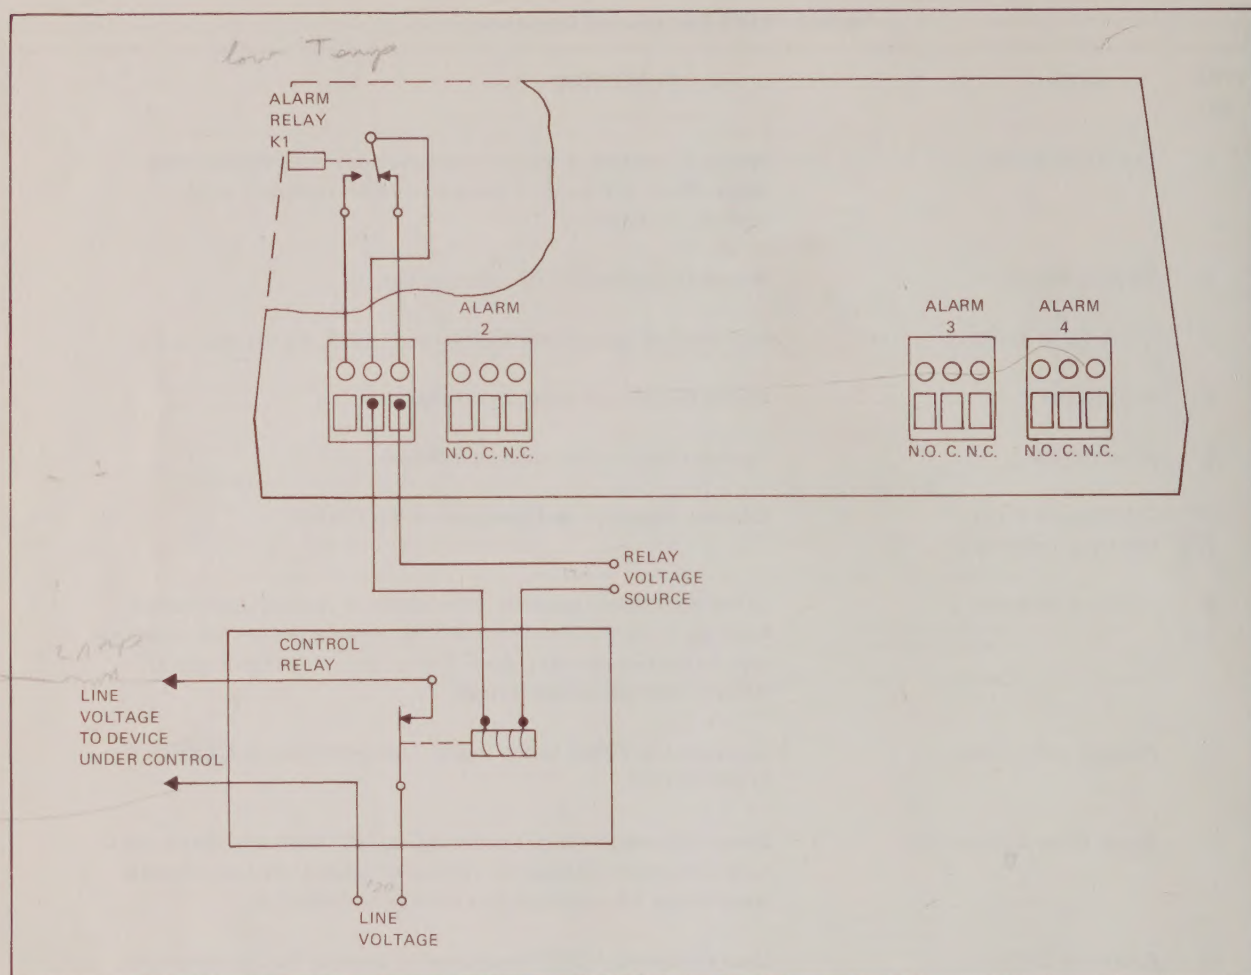

Figure 2. External Control Connections
Each limit setting will be associated with a limit relay. When a limit is not exceeded, relay common (C) is connected to the normally closed (NC) contact. When a limit is exceeded, relay common will be connected to the normally open (NO) contact. Separate terminal blocks for each set of relay connections (C, NC, NO) are located on the rear panel. Figure 2 illustrates alarm relay connections and terminal block locations. When making connections, insert the appropriate wire into the C, NO, or NC terminal slot and tighten the associated screw. Refer to Table 1 (Specifications) for relay maximum ratings.
Any one of the four limit positions may be used to control external devices. The alarm relays may be utilized as in the following example. Refer to Figure 2 when connecting the Y2002 as a controller.